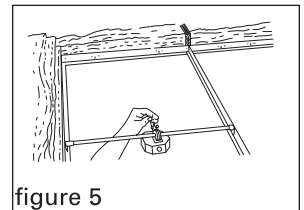

figure 5
4. Center the electrical box over the hole in the ceiling tile and snap the ends of the support bar down onto the ceiling grid (figure 5).